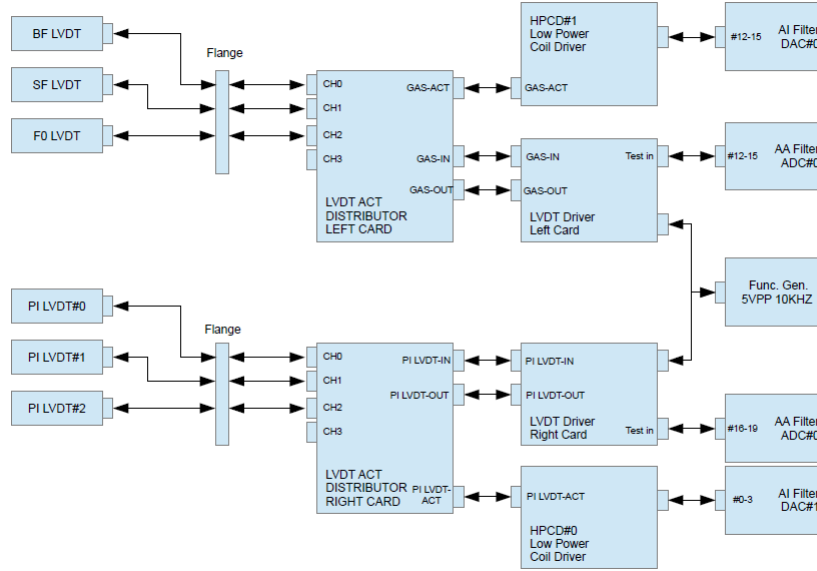

Figure 3: SR2 LVDT Connections
1. To calibrate and operate the LVDTs, we need to connect them to the LVDT Driver board, and set a signal in the Signal Generator for the excitation of the primary coil. In the figure 3. We can see the connections used for the SR2 as an example.